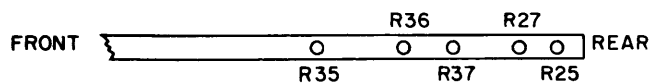

Figure 5-6. Frequency Shift Generator Adjustment Locations
(1) Set MODE switch to ISB position, and remove frequency shift generator Z108 from Exciter. Adjust potentiometer R58 fully counterclockwise and adjust CARRIER control fully clockwise.
(2) Set EXCITER switch to ON position and measure 2.75 MHz input at J108-C (approximately 70 mv peak-to-peak). Measure 250 kHz input at J108-2 (approximately 70 mv peak-to-peak). Insert Z108 into Exciter.
(3) Place scope at TP4 and tune transformer T1 for maximum level.
(4) Place scope at J108-7 and tune transformers T1 and T2 for maximum level. (approximately 0.4 volt peak-to-peak)
(5) Connect frequency counter to vertical output terminals of scope.
(6) Place MODE switch in FSK position. On rear panel set:
(7) Adjust potentiometer R56 for maximum level indication on oscilloscope. Locations of adjustment potentiometers are shown in figure 5-6.